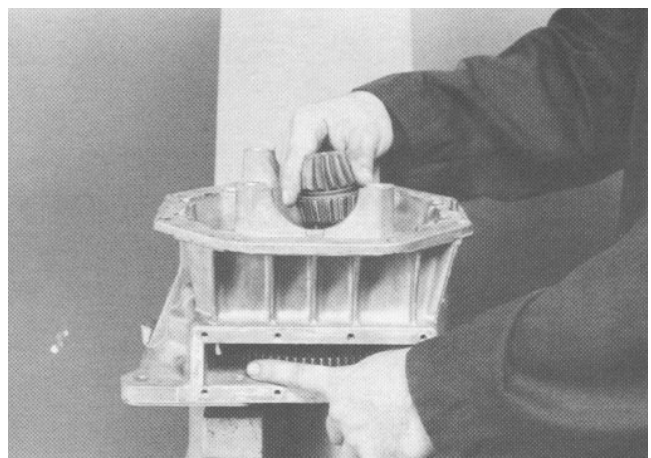

Figure 40
6. Insert the spur gear into the front housing with the chamfered area of the center spline toward the drive pinion. Install the drive pinion with a soft mallet to engage the splines in the spur gear (Fig. 40).